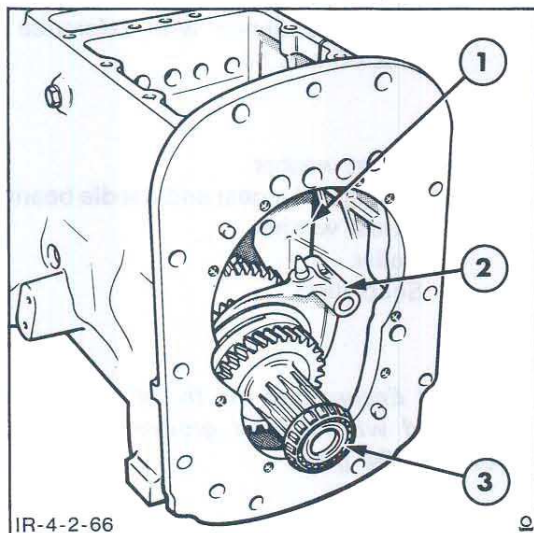
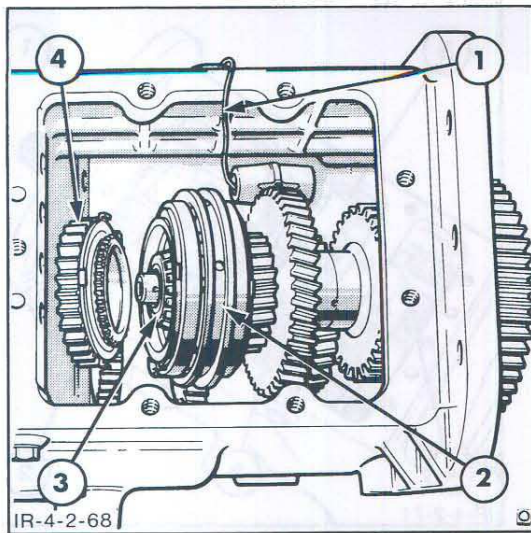

Figure 67
Figure 69
6. Position the shift rail fork onto the 1st-2nd synchroniser assembly and using a suitable length of brazing rod support the fork so that it is positioned approximately 2cm away from the transmission housing as shown in Figure 67.
9. Install the output shaft and gear assembly into the transmission case from the rear end, while holding the front end of the synchroniser assembly to prevent the cones and pins dropping out, Figure 67, and position onto the countershaft and gear assembly just behind the rear input shaft, Figure 69.